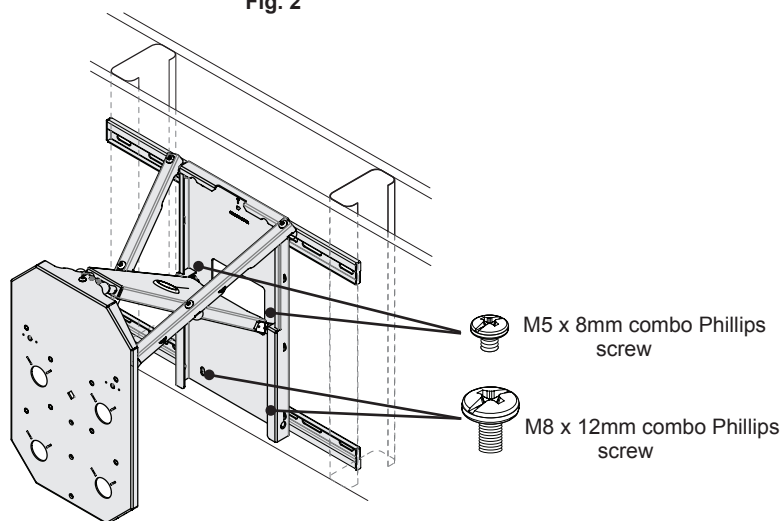

Fig. 3
- 3 Use (2) M8 x 12mm combo Phillips screws to attach the bottom of the pullout mount to the wall frame (Fig. 3).
- 4 Use two (2) M5 x 8mm combo Phillips screws to attach the middle of the pullout mount to the wall frame (Fig. 3).